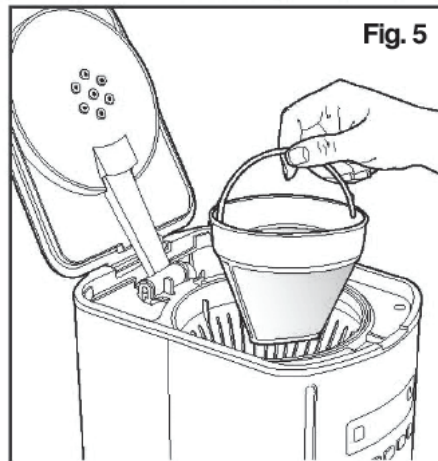

Fig. 5
3. Place either the permanent gold-tone filter or a size #4 cone paper filter into the brew basket (see Fig. 5).